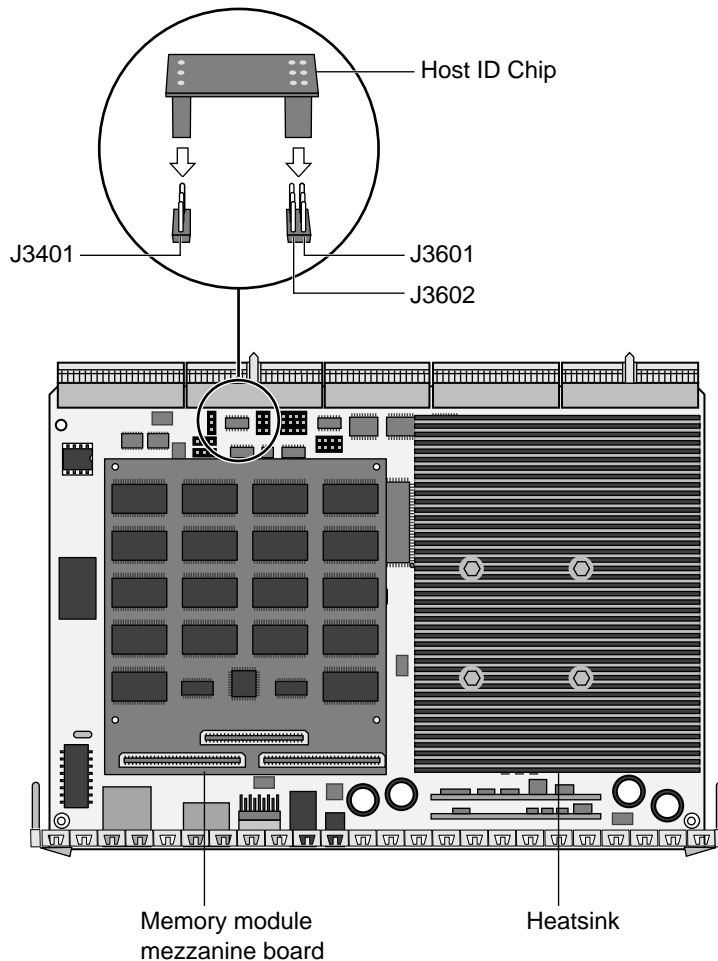

FIGURE 10-1 Location of the Host ID Chip on the Motherboard
If you ever need to replace an entire Netra t1, you can re-use the old system's MAC address and serial number in the new system. This information is stored on the motherboard in a removable component called the Host ID chip (see FIGURE 10-1). To transfer them to a new system, do the following:
1. Remove the Host ID chips from both the new and the old systems (to identify the chip, see FIGURE 10-1).